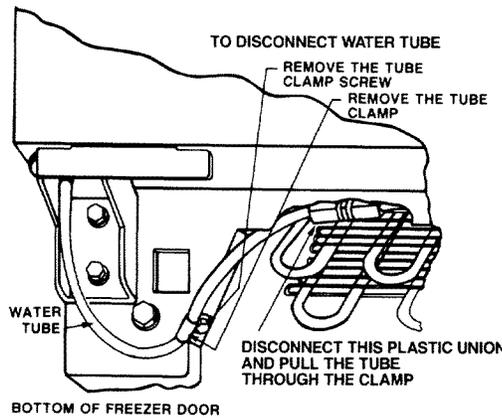

FIGURE 9
4. Disconnect freezer door bottom hinge water line by disconnecting the $\frac{1}{4}$ " O.D. plastic tube union nut. See Figure 9. Slide the compression nut off the water tube.